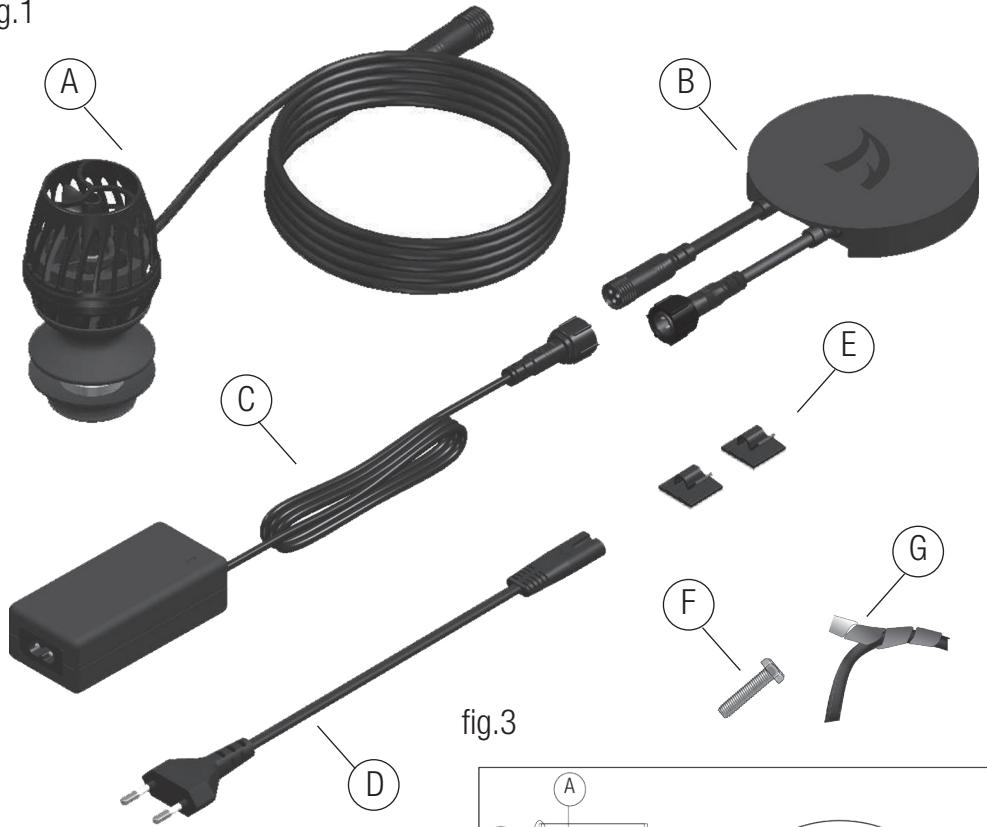

fig.2
3. Install cable protector wrapping around wave pump cable. This protects the pump cable from triggerfish, urchins and other animals that may damage pump cable (fig. 2).